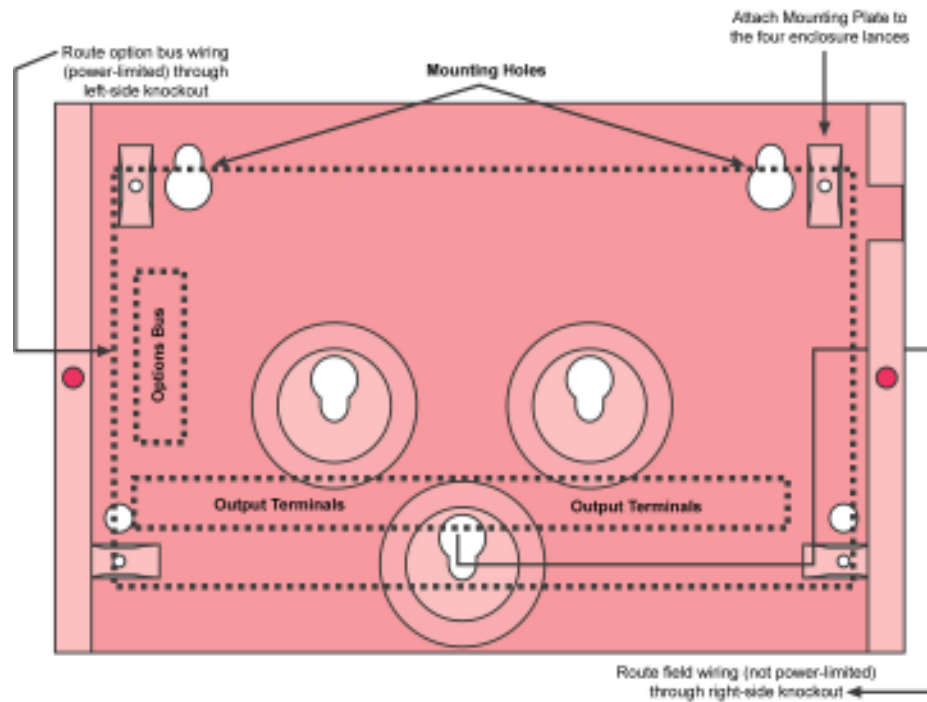
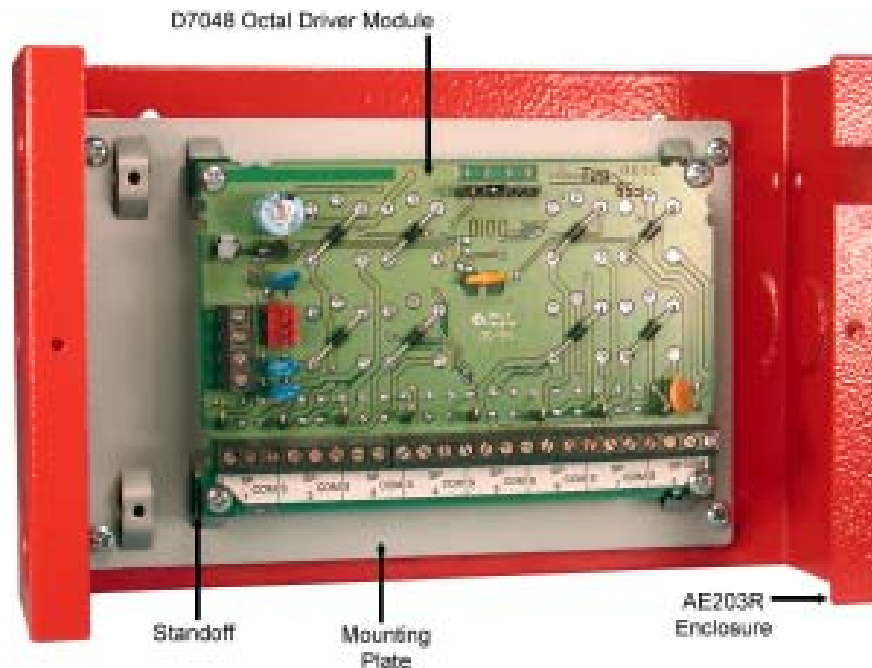

Figure 2: Mounting the AE203R Enclosure
Figure 3: Mounting Plate Assembly
- 2) Using the enclosure as a template, mark the mounting holes on the mounting surface and make openings for the unit's wiring. It is recommended that the option bus wiring enter the AE203R enclosure from the left and the D7048 output wiring exit the enclosure to the right. See Figure 2.
- 3) Snap the four plastic standoffs onto the appropriate raised tabs on the mounting skirt (see Figure 3) and then use the longer supplied screws to attach the D7048 module to the plastic standoffs.
- 4) Attach the mounting skirt (with the circuit board attached) to the AE203R enclosure using the hardware provided. See Figure 2 and/or Figure 3.
- Do not use voltages over 12 VDC or any AC voltages on the D7048(B). Voltages over 12 VDC may damage the D7048(B) and the control panel.
- All Commons on the D7048(B) are tied together to Option Bus Negative (-). Do not mix voltages and power supplies.
- For D7048B, route power-limited wiring (option bus) away from non-power limited (field wiring). See Figure 2.